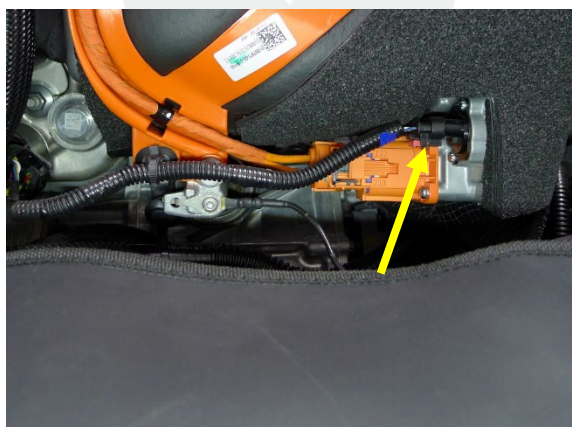

Figure 8
10. Pull the red tab out, and then pull the red tab again to disconnect the A/C compressor LV logic harness from the A/C compressor connector (Figure 8).